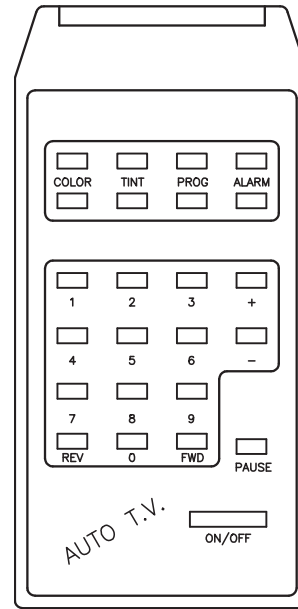

Fig. 20-11
6. Open the **remote.dwg** file you created in Chapter 18, “Applying AutoCAD Skills” problem 3. If you have not yet created the drawing, do so now. Then add the text shown in Fig. 20-11.